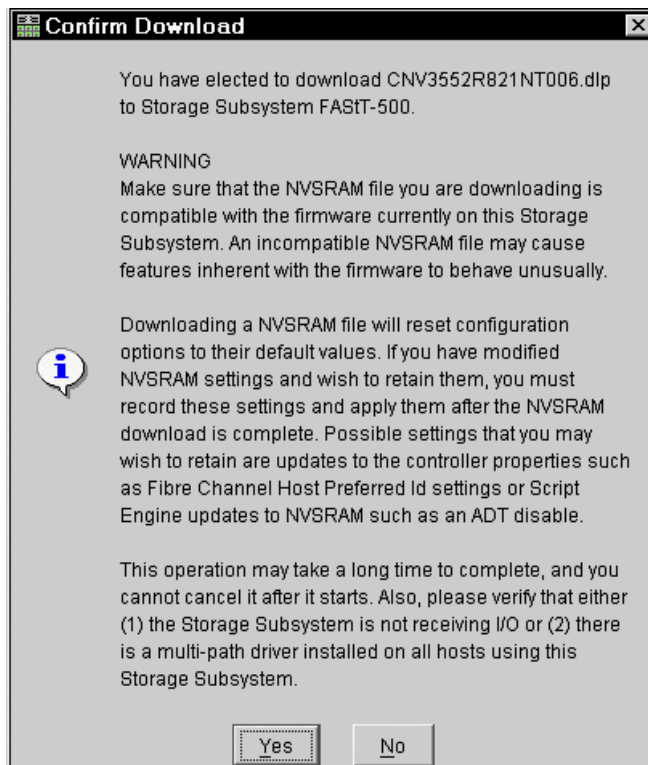

Figure 7-14 NVSRAM Confirm Download
- c. A confirmation window appears. It reminds you to check that the NVSRAM version you are downloading is compatible with the firmware you downloaded (Figure 7-14).